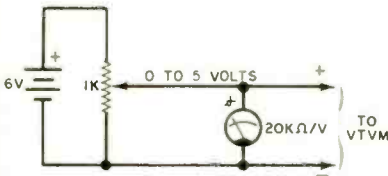

Fig. 5. Variable voltage divider circuit used to calibrate the miniature VTVM.
**Calibration.** Any known source of voltage can be used to calibrate the VTVM. A simple setup is shown in Fig. 5. However, before turning the instrument on, check for mechanical zero of the VTVM's meter. Next, set the range-selector switch to the 5-volt scale and adjust zero control R11 until the switch just clicks on. The meter will probably read about 1.25 volts. Continue turning R11 slowly, clockwise, until the meter reads zero. Do this with the probe connected to the meter and the alligator clip on the test prod's point, to prevent readings of stray voltages.